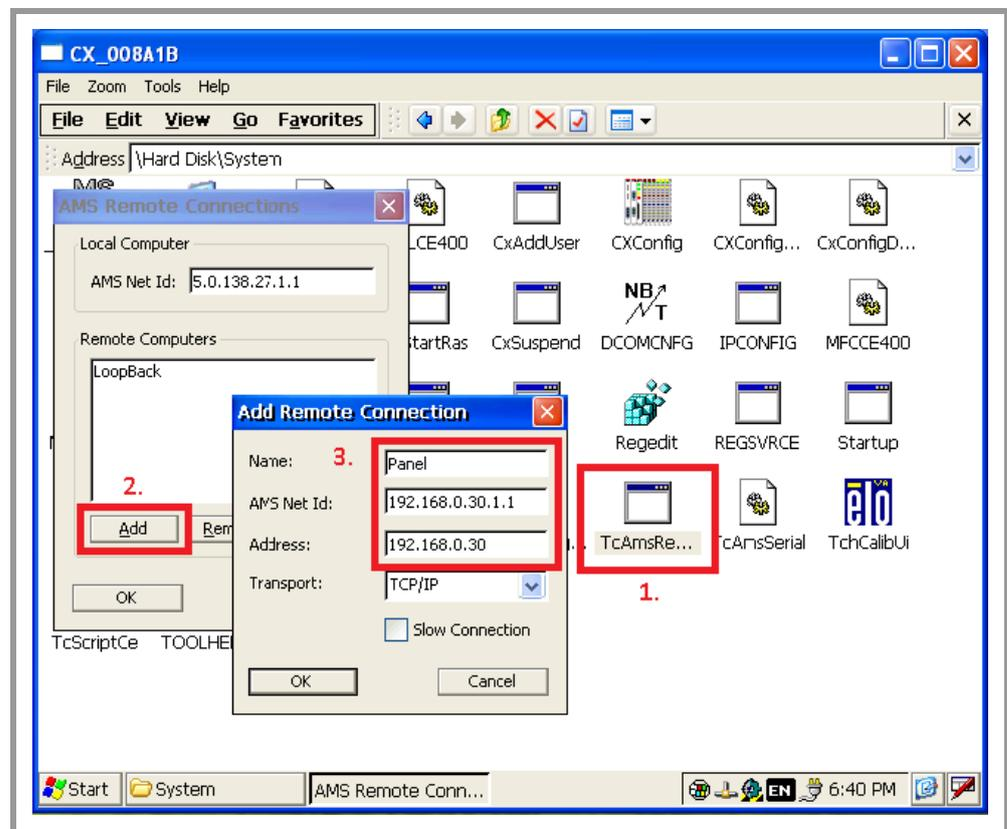

Fig. 91 Add an AMS route to a Beckhoff TwinCAT device from within the device itself
3. Then add the name, the AmsNetId and the IP address of the connection as shown in Fig. 91.